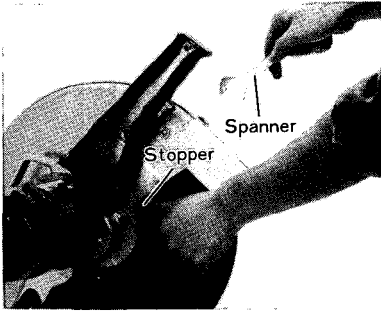

Fig. 6
1. Dismounting the Cut-off Wheel (Fig. 6)